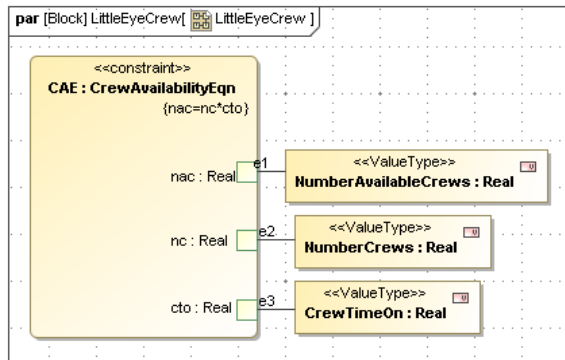

Figure 4.5 LittleEyeCrew Parametrics Diagram
- b. Create submodels for the Aircraft, Crew, and Fuel blocks using the same procedures, ending with the parametrics diagrams shown in Figures 4.5, 4.6 and 4.7